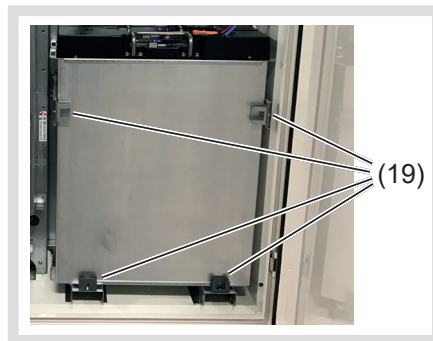

Figure 35: Battery bracket for battery module
- Screw on the battery brackets (19) of the battery module mounting device at the bottom and on each side (Figure 35).
- Turn the battery module so that the connections for the battery power cables (10) and (18) are on the right.
- Place the battery module(s) in the battery module mounting device of the energy storage system and fix it by screwing on the battery bracket (19) .